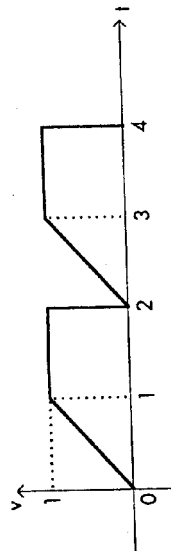

Fig. 2.13
13. Find rms and average value of the waveform shown in Fig. 2.13.